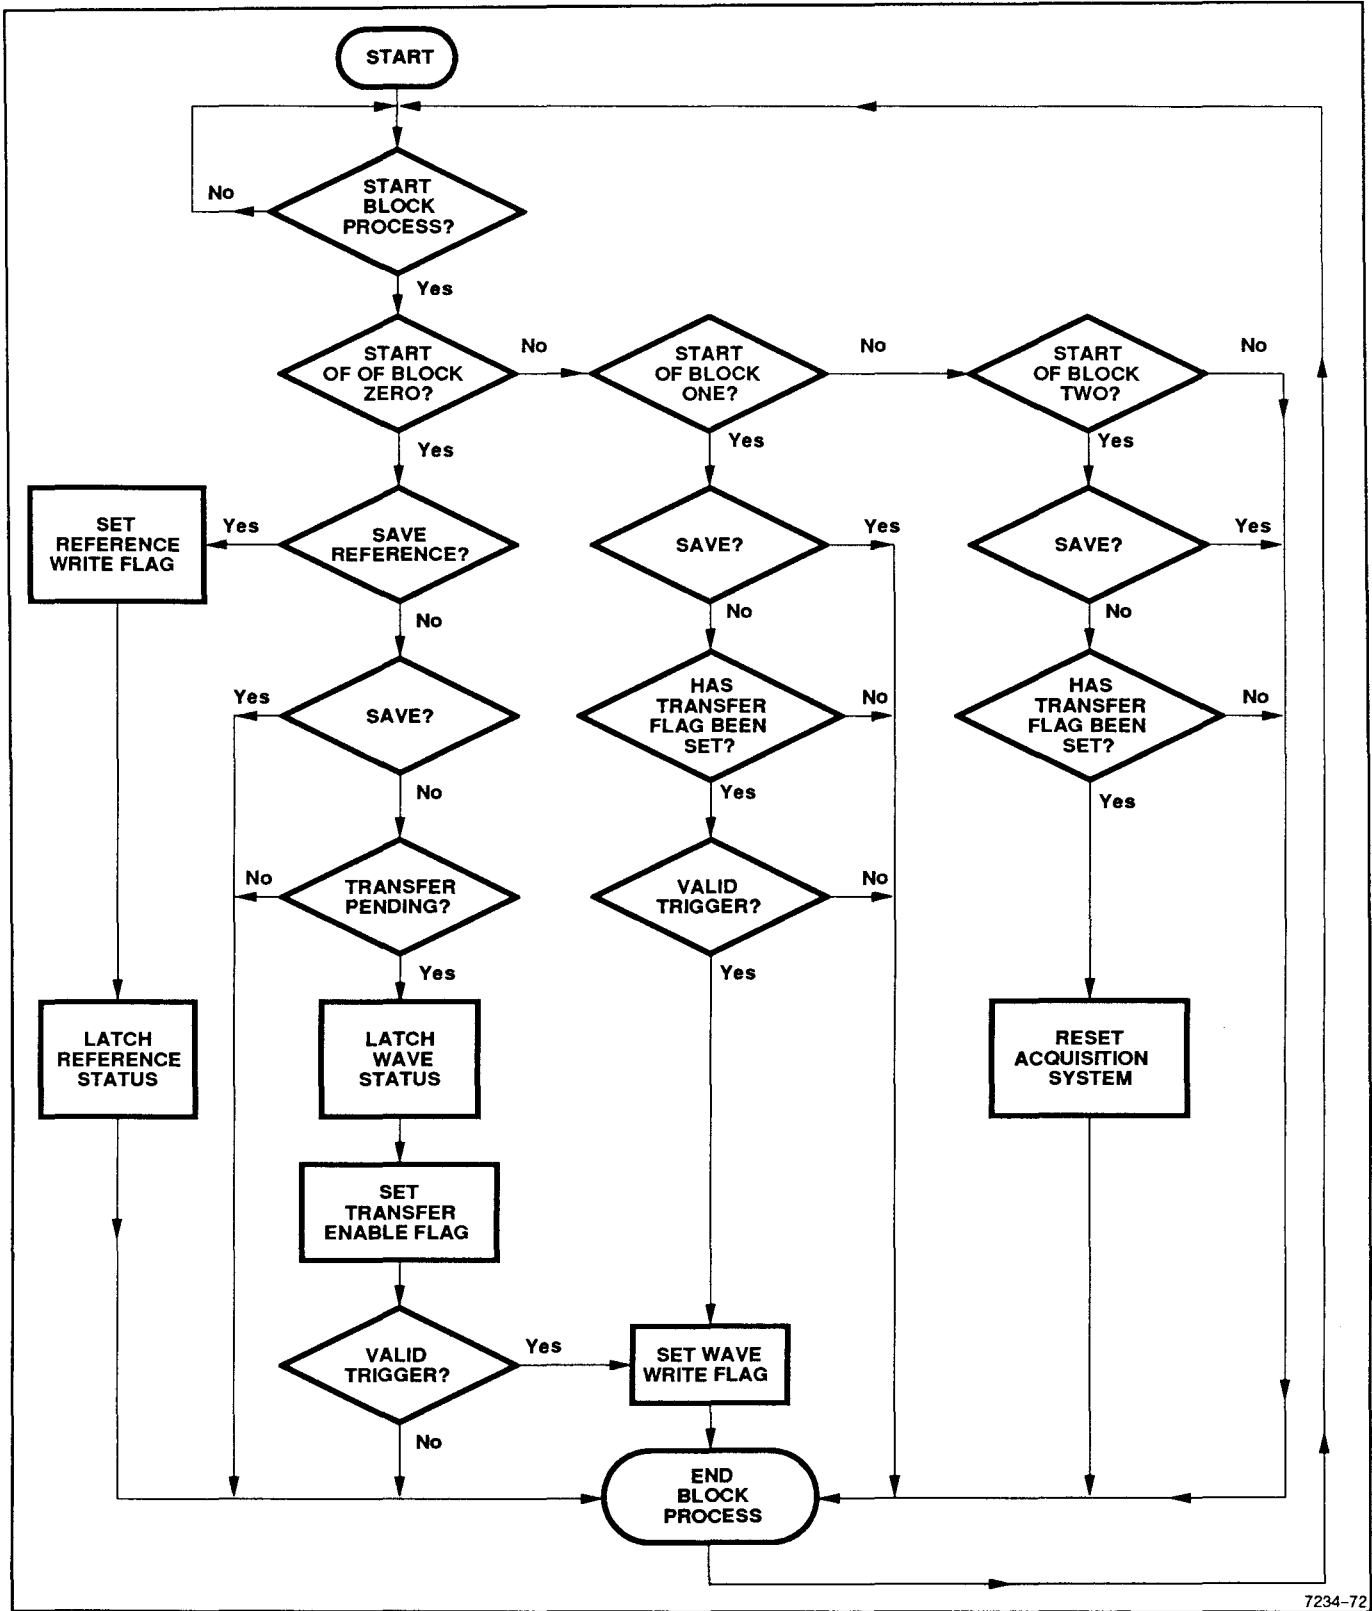

Figure 3-9. Block State Machine flow diagram.
The Block State Machine U2262 has a total of 12 inputs and 8 active outputs. The state of the outputs is purely a function of the current state of the machine except ALT_BLANK. ALT_BLANK is dependent on the inputs DS6, BLK0(L), BLK1(L), BLK2(L), BLK3(L) and CH1_TRIG. The operation of the Block State Machine will now be described for a typical display sequence. See Figure 3-9 for the Block States flow diagram. Table 3-1 summarizes the Block Process Activities.